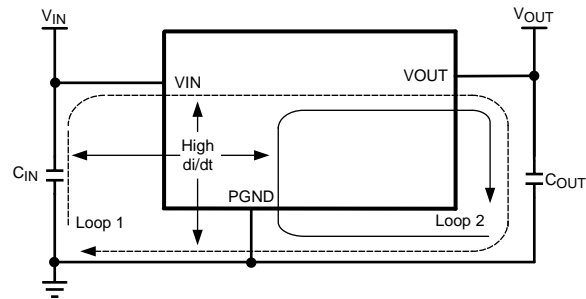

Figure 56. Critical Current Loops to Minimize
From an EMI reduction standpoint, it is imperative to minimize the high di/dt paths during PCB layout as shown in Figure 56 above. The high current loops that do not overlap have high di/dt content that will cause observable high frequency noise on the output pin if the input capacitor (C_{IN}) is placed at a distance away from the LMZ23610. Therefore place C_{IN} as close as possible to the LMZ23610 VIN and PGND exposed pad. This will minimize the high di/dt area and reduce radiated EMI. Additionally, grounding for both the input and output capacitor must consist of a localized top side plane that connects to the PGND exposed pad (EP).